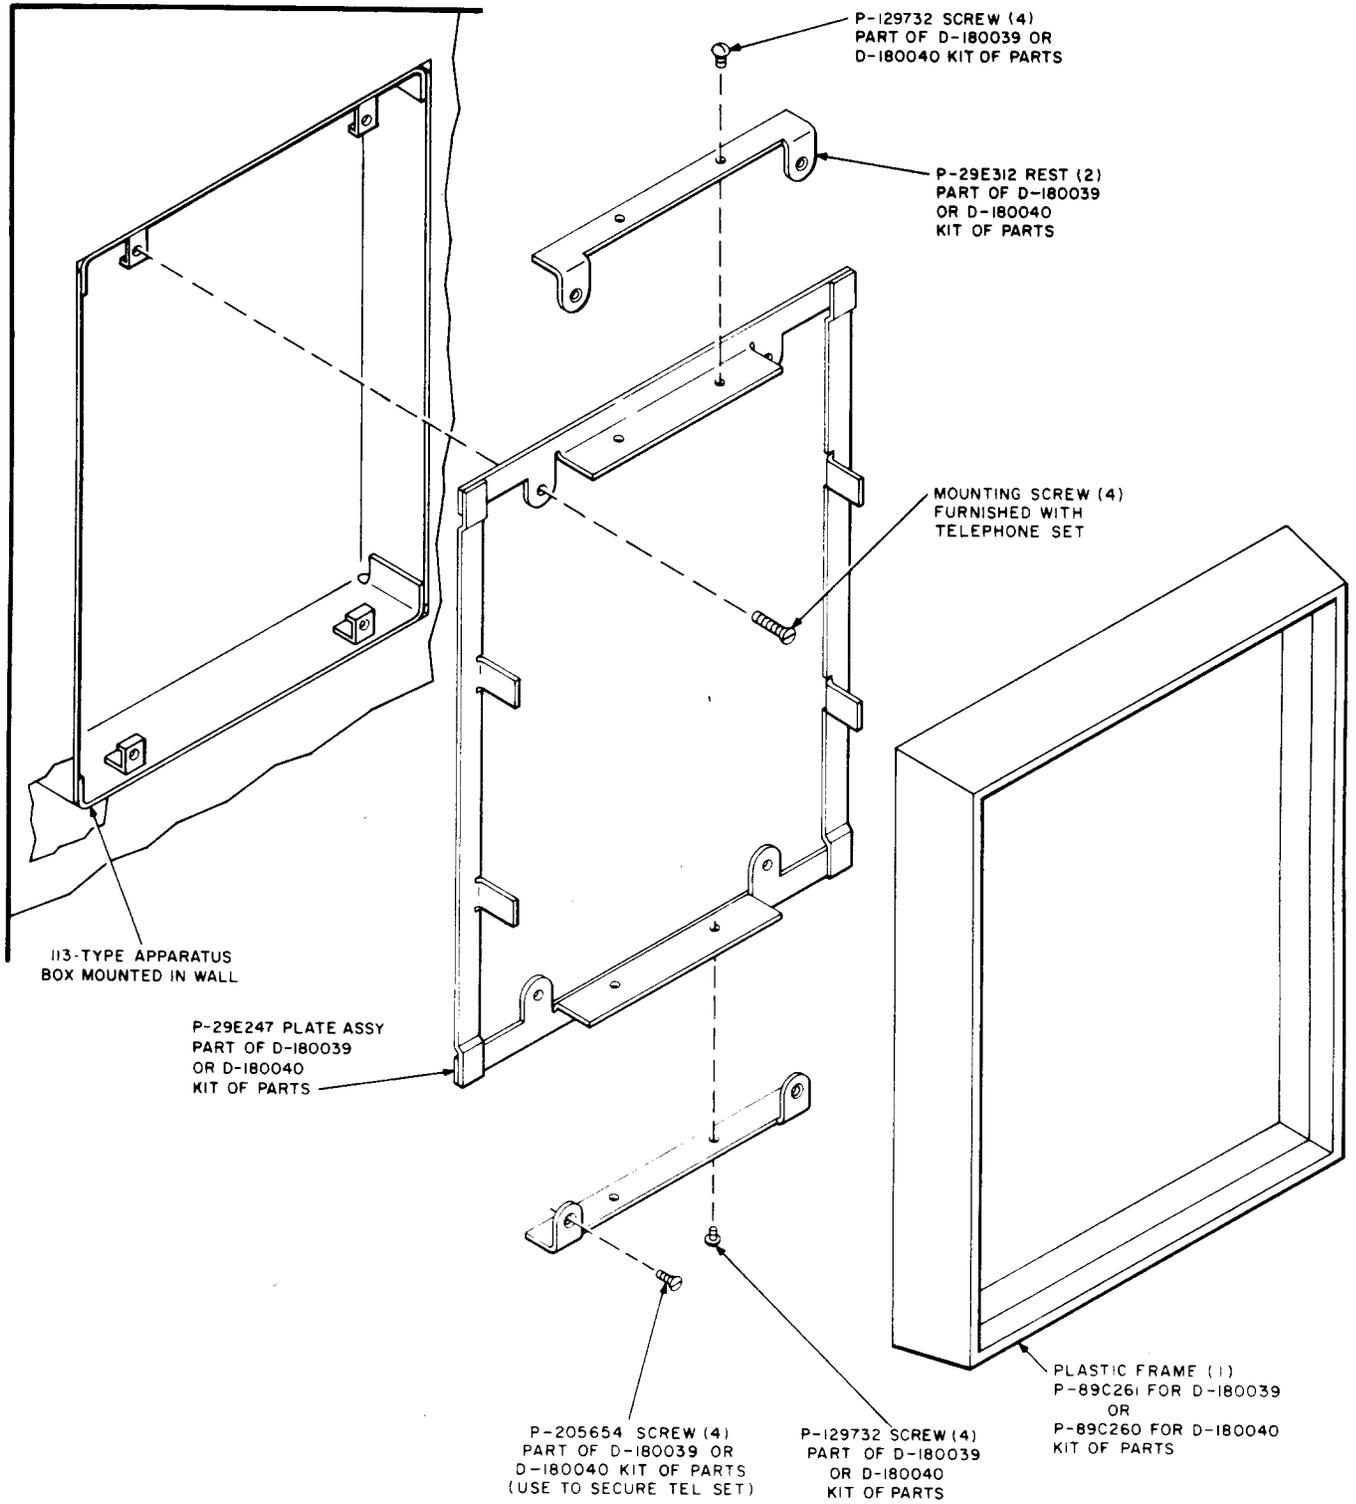

Fig. 3—D-180039 or D-180040 Kit of Parts
ordered separately, is required when these sets are to be installed in a 113-type apparatus box (Fig. 3). If an A25B connector cable is used to connect telephone set, proceed to (4).
- (1) Dress inside wiring cable conductors through appropriate slots in the 75A connecting block (ordered separately).
- (2) Secure connecting block to upper right hand mounting brackets of apparatus box.
- (3) Terminate inside wire and D50AA-3 mounting cord conductors in standard color code sequence. Dress mounting cord slack to right
- (4) Using the four mounting screws supplied with the telephone set, secure the P-29E247 plate assembly from the D-180039 or D-180040 Kit of Parts to the set mounting brackets of the apparatus box (Fig. 3 and 4).